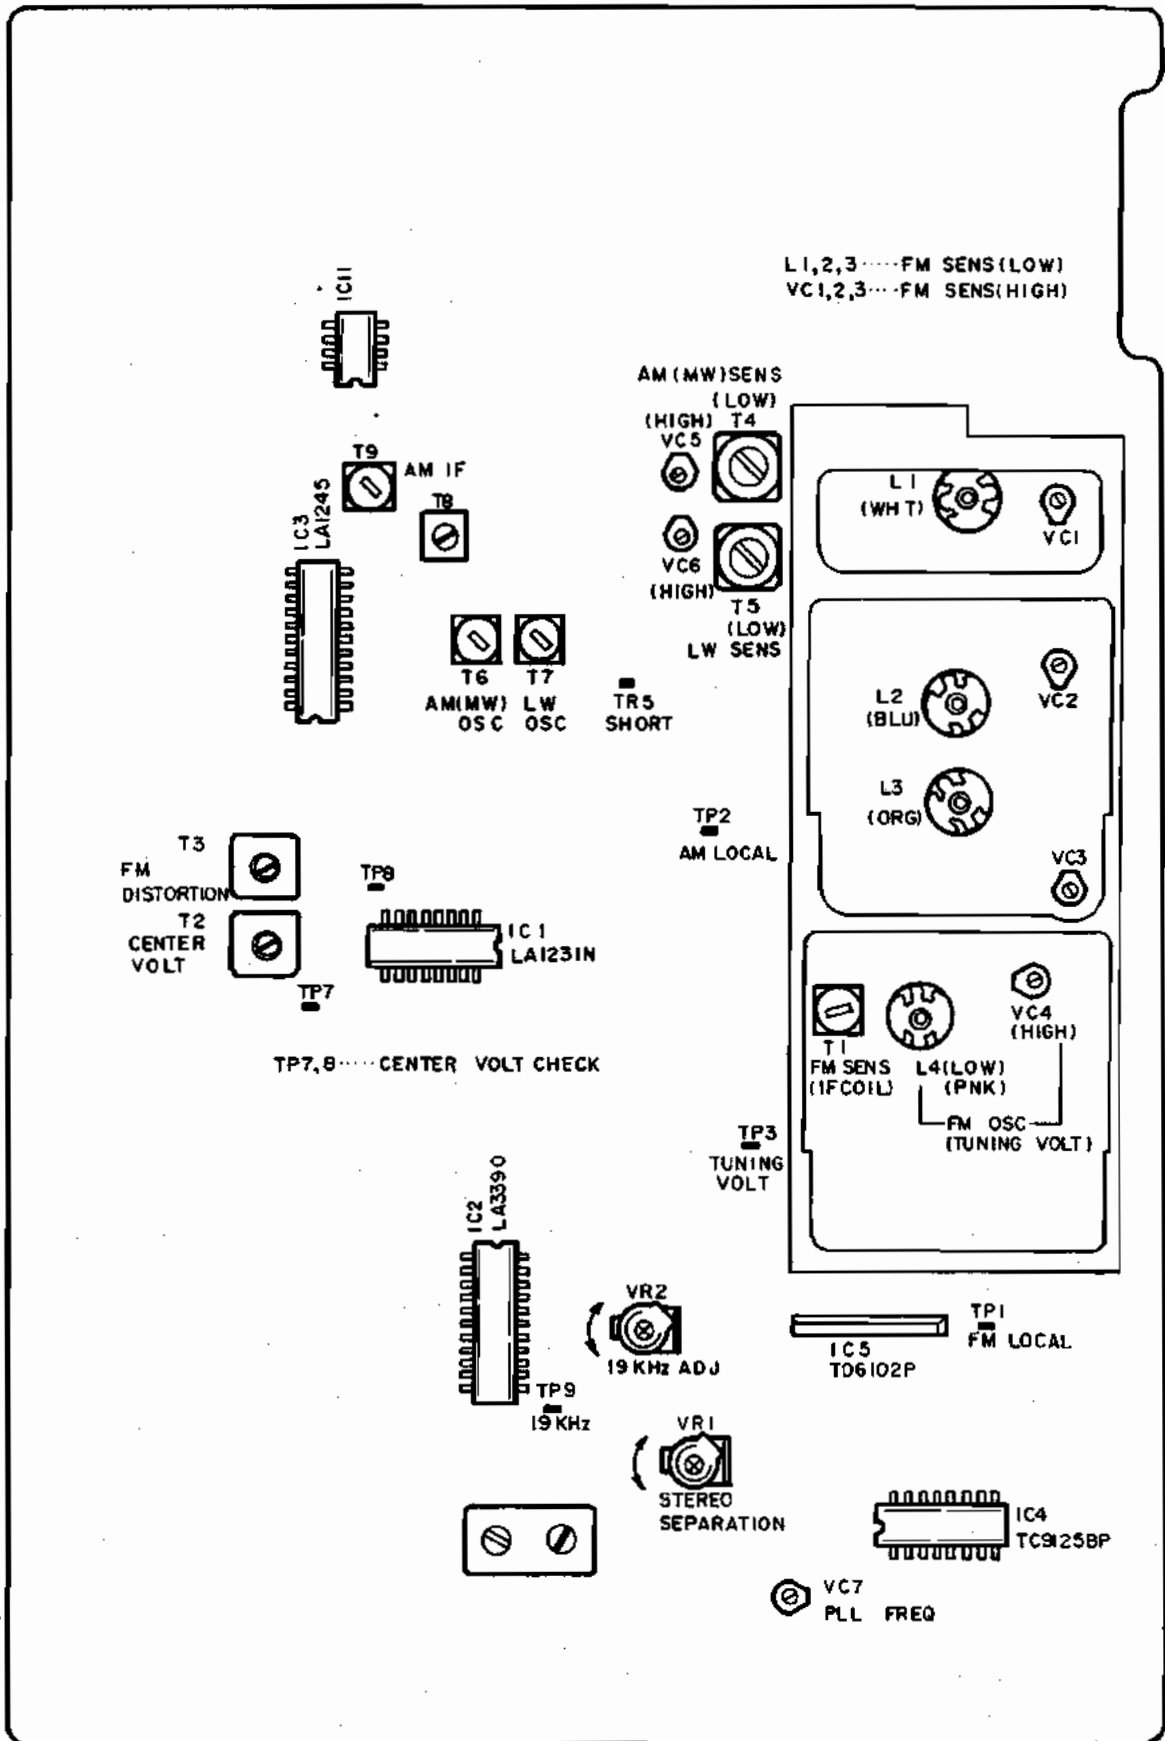

Fig. 3-11 Tuner PCB
1) AM (AA-R32L : MW) SECTION ADJUSTMENT (Refer to Figs. 3-11, 12)
2) LW SECTION ADJUSTMENT (AA-R32L only) (Refer to Figs. 3-11, 12)
3) FM SECTION ADJUSTMENT (Refer to Figs. 3-11, 13)